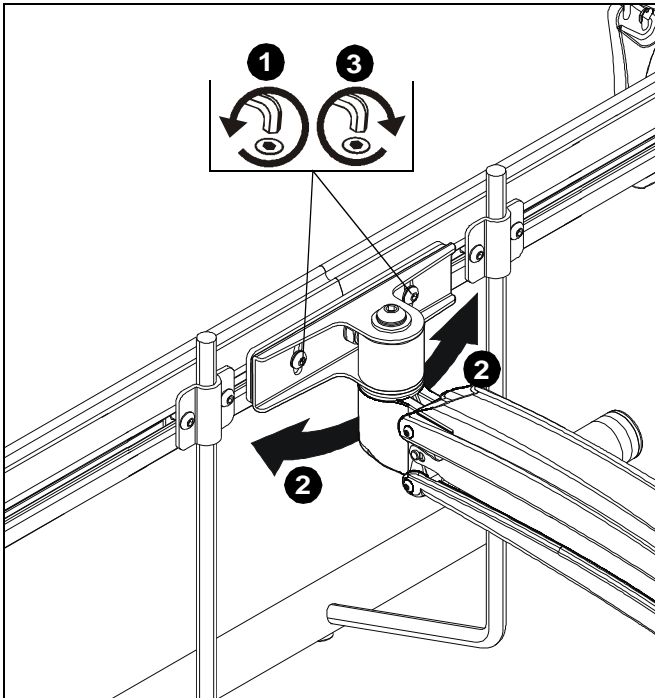

Figure 21
1. Loosen roll adjustment screws on back of array bracket. (See Figure 21)
2. Adjust roll of array bar as desired. (See Figure 21)
3. Tighten roll adjustment screws on back of array bracket. (See Figure 21)